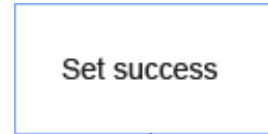

Fig. 9
- “beep~” will sound and screen displays *Fig.9*